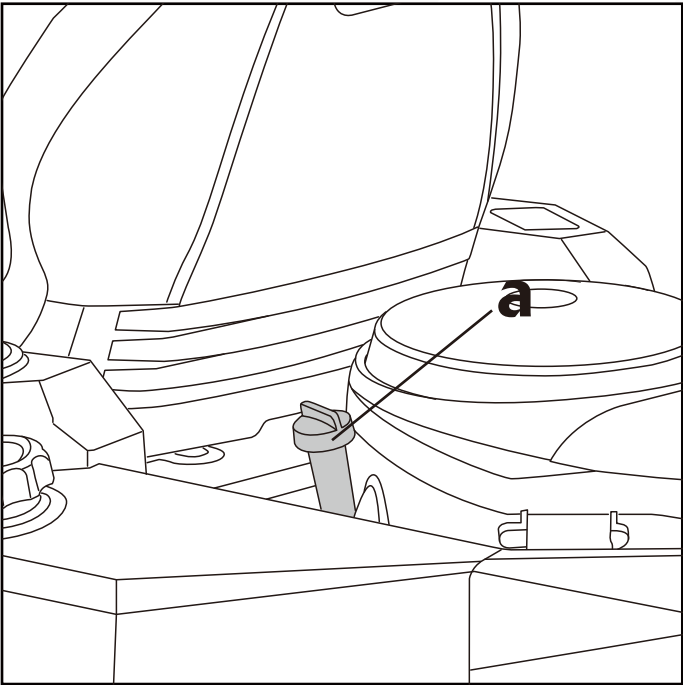

Fig. 11
- Remove the engine oil dipstick (a, Fig.11). Wipe the dipstick clean, ensuring no oil remains.